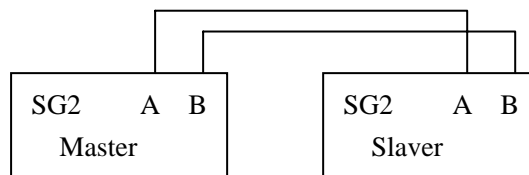

Figure1 : Master-Slaver communication connection
2.1.2.1    Connected A and B lines of two V-type SG2 , as Figure1 ;